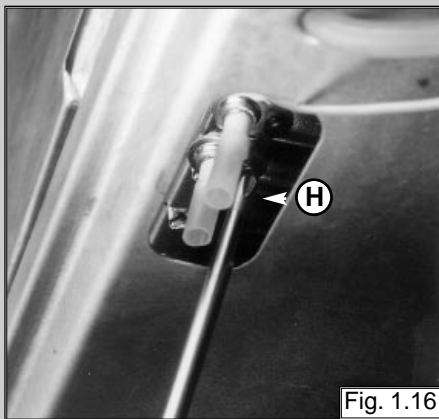

Fig. 1.16
5. Remove screw "H" using a Philips No. 2 star tip screwdriver (see fig. 1.16);